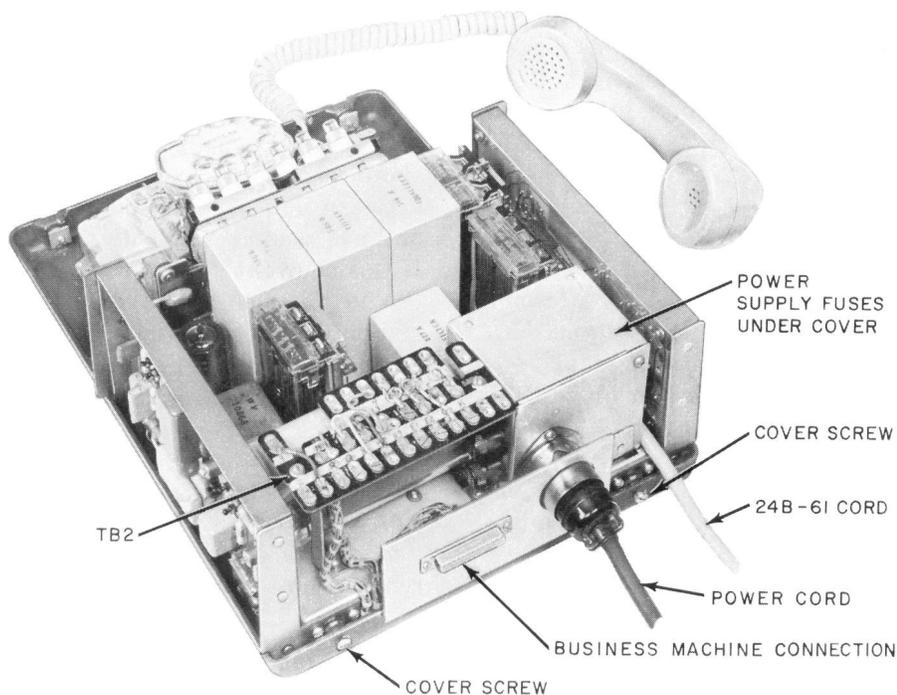

Fig. 1—Data Set 202A, Rear View
3.01 Figures 1 and 2 show the location of terminal boards and miscellaneous parts in DS 202A.